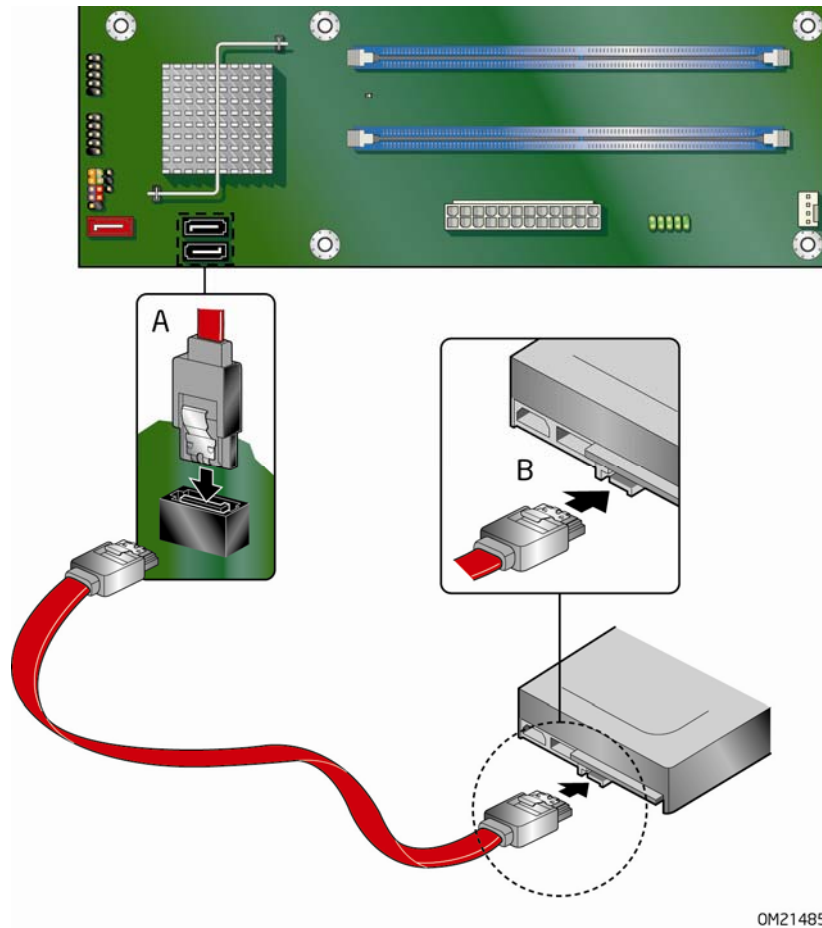

Figure 17. Connecting a Serial ATA Cable
2. Attach one end of the SATA cable to one of the black SATA connectors on the board (Figure 17, A).
3. Attach the other end of the SATA cable to the SATA drive (Figure 17, B).